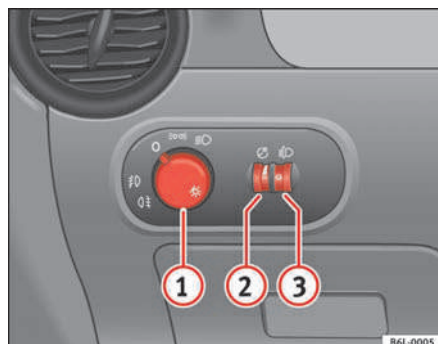

Fig. 56 Detailed view of dash panel lights, fog light and rear fog light control
- Turn the light switch ➡ fig. 56 to position 1.